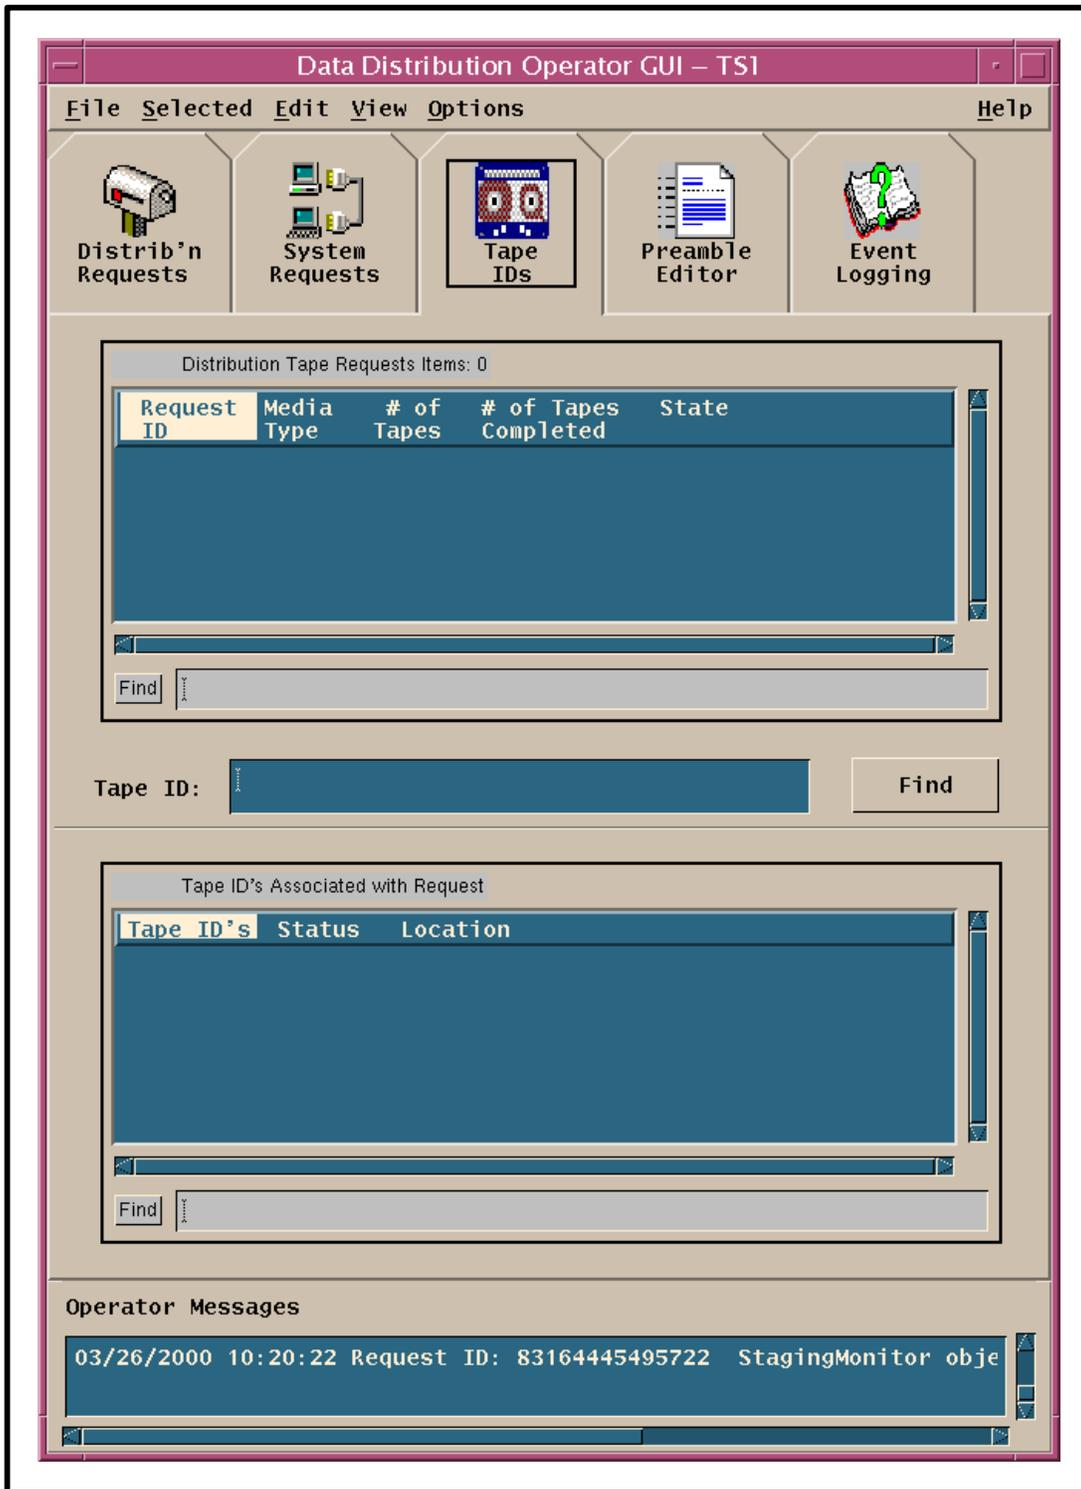

Figure 18. Tape ID's Tab (Data Distribution Operator GUI)
The **Tape ID's** tab (Figure 18) of the **Data Distribution Operator GUI** allows the DAAC Ingest/Distribution Technician to determine which tape(s) on which stacker(s) contain(s) the data specified in a particular data distribution request. There are two windows on the tab, the **Distribution Tape Requests Items** window and the **Tape ID's Associated with Request** window.
- The **Data Distribution Operator GUI Tape ID's** tab (Figure 18) is displayed.